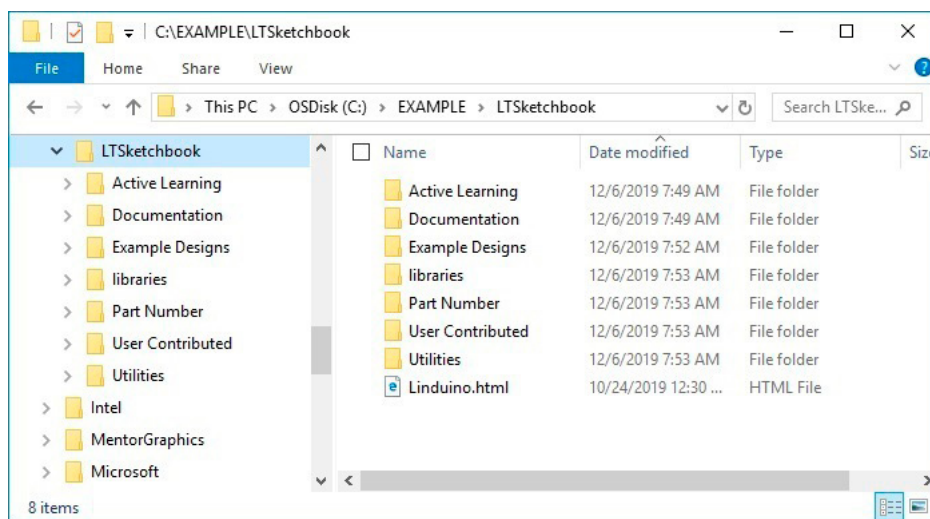

Figure 12. Documentation Directory
**Documentation directory:** Contains `html` documentation for the provided code base. Documentation for all of the BMS ICs can be accessed by opening the `Linduino.html` file, as found in the main sketchbook directory (Figure 12) and in the Documentation directory.